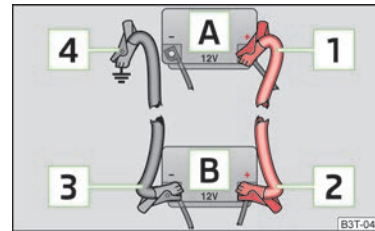

Fig. 117
- Attach one end **[1]** » Fig. 117 to the positive terminal of the discharged battery **[A]**.
- Attach one end **[3]** » Fig. 117 to the negative terminal of the battery supplying the power **[B]**.